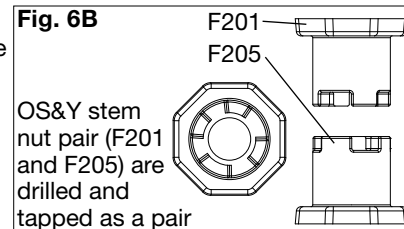

Fig. 6B
**NOTE:** The stem nut pair are keyed with different sized lugs. Be sure to align the lugs in the correct location! (See fig. 6B)